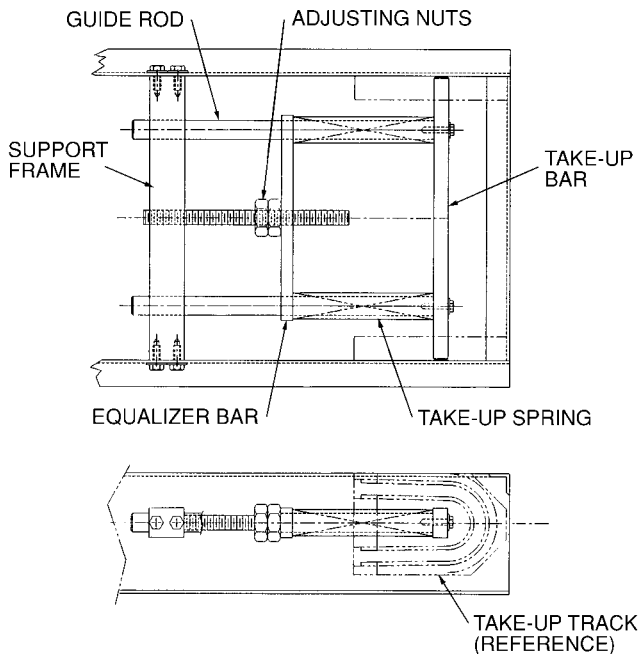
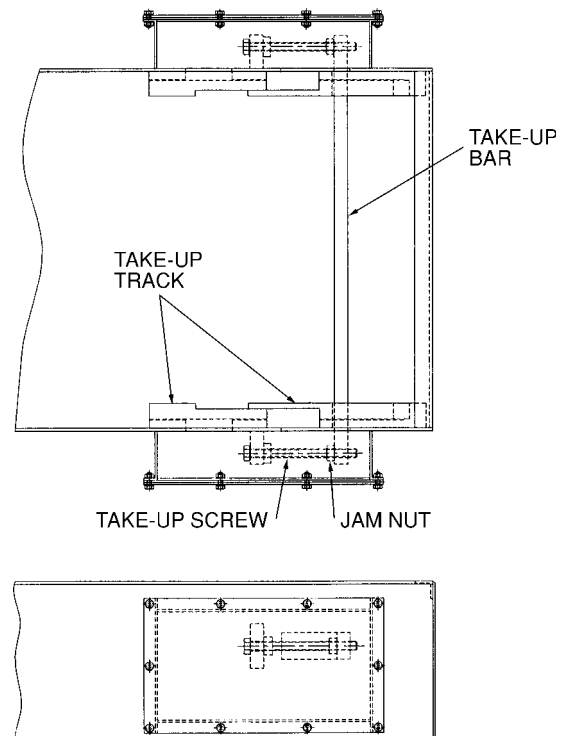

FIGURE 9.
FIGURE 10.
Figure 9 shows Model 5 and 6 with spring take-up. Figure 10 shows Models 8, 9, 11 and 12 with screw adjustable take-up.
To service the spring take-up assembly the first step is to remove the slider plate (see Figure 9). With the slider plate removed, inspect the spring take-up assembly. Any damaged parts can be ordered from Eriez. To replace springs, relieve tension by loosening the 5/8-11 nuts. Then remove the (2) 1/4-20 bolts and move the equalizer bar back. When replacing springs, replace all of them.